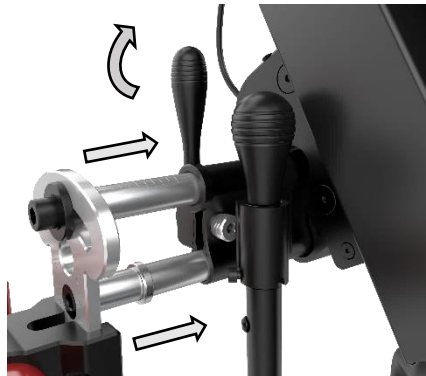

Figure 27. Assembling the Clamp Assembly to the Width Adjustment Assembly
- Insert the two Width Adjusting Rods into the two receiving holes. The QR Lock Levers must be down and loose to receive the Manual Clamp Mechanism. Once the width is established, the Lever is locked upright (see Figure 27).